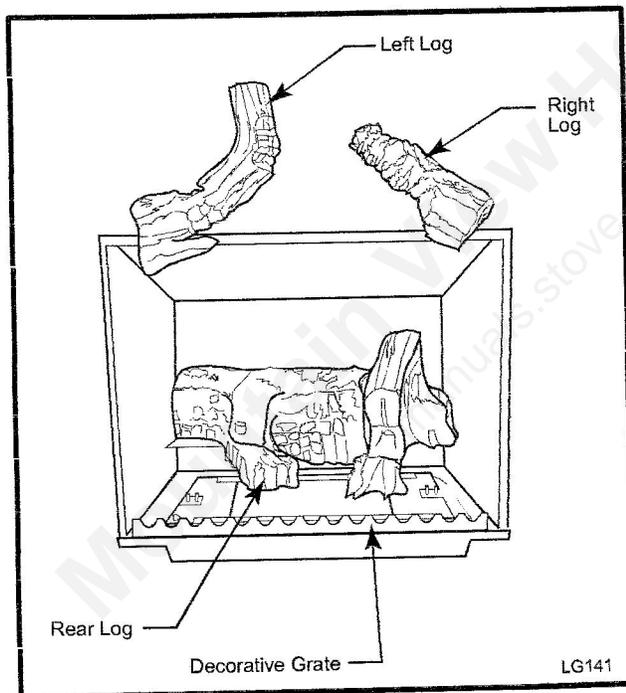

Fig. 41 Install the back, left and right logs.
2. Install the rear log centering it side to side on the sheet metal shelf at the back of the firebox. (Fig. 41) The log will touch both sides and the back wall of the firebox.
3. Install the right log by engaging hole on bottom with pin on the rear log. (Fig. 41) Then set right bottom side on the burner so the edge of the log touches the right side of the firebox. The right log does not use the locator pins on the burner to stay in place.
4. Install the left log by engaging hole on bottom with pin on rear log. (Fig. 41) Then set left bottom side on the burner so the edge of the log touches the left side of the firebox.